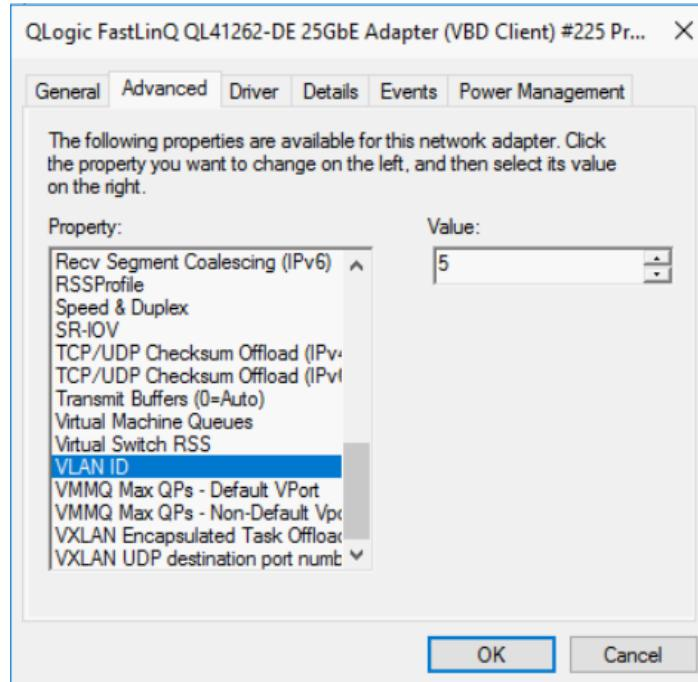

Figure 13-10. Advanced Properties: Setting VLAN ID
- b. On the adapter's Advanced Properties page (Figure 13-10) under **Property**, select **VLAN ID**, and then set the value.